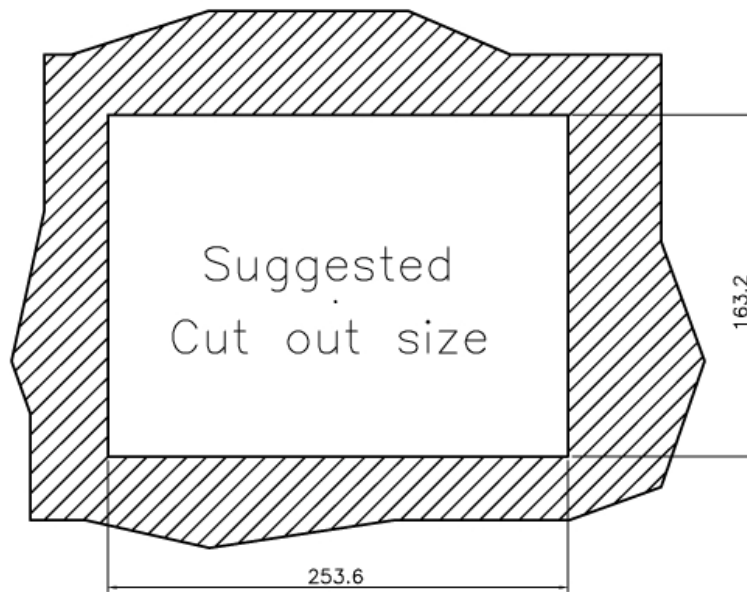

Figure 2-14: AFL-15B-AM2 Cutout Dimensions (units in mm)
- Step 2:** Cut out a section from the panel that corresponds to the rear panel dimensions of the panel PC. Take care that the panel section that is cut out is smaller than the overall size of the metal frame that surrounds the panel PC but just large enough for the rear panel of the panel PC to fit through (**Figure 2-14**).